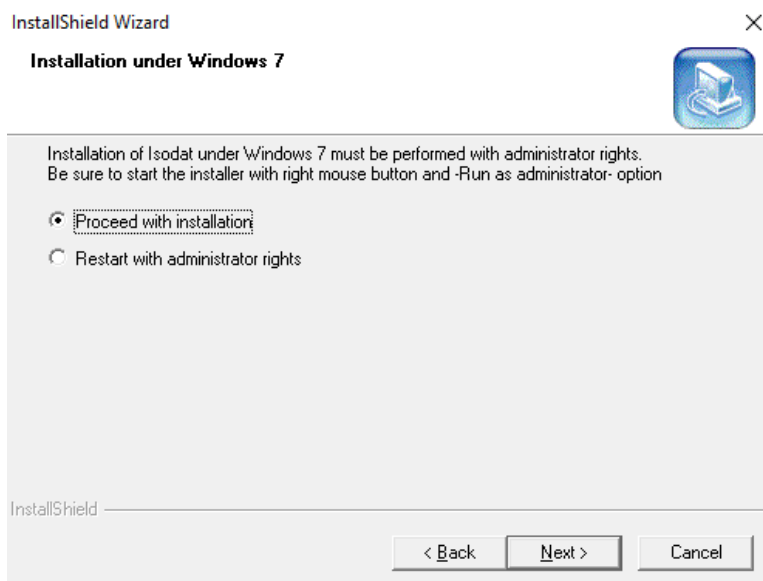

Figure 3-4. Isodat installation - Proceed with Installation
6. In the Isodat Installation Wizard, select **Proceed with installation**. Click **Next**. See Figure 3-4.